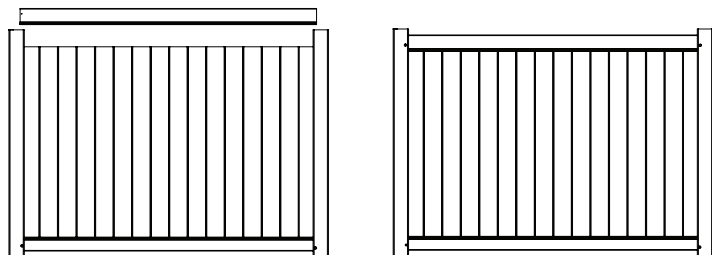

Figure 9
- The Top Horizontal Rail must also fit into the grooves of the H-Posts (see illustration Figure 9).